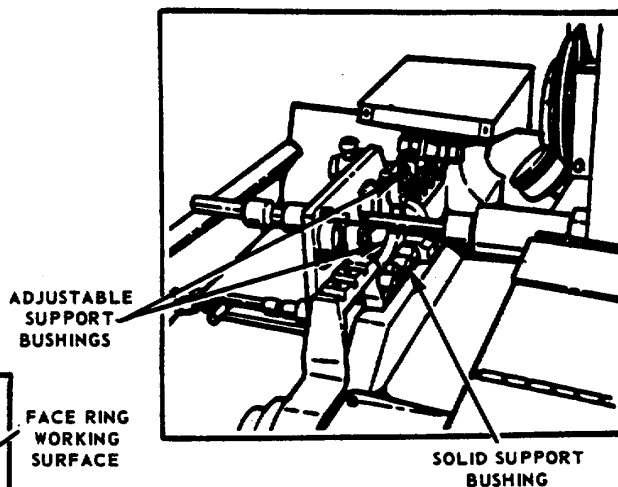

FIGURE 116
1. See Figures 116 and 117. Slightly loosen the two Attaching Nuts on Adjustable Support Bushings. Leave the Attaching Nut at Solid Support Bushing tight.
4. See Figures 116 and 117. If Dial Indicator does not read zero, loosen Locking Nut on rear of appropriate Adjustable Support Bushing.